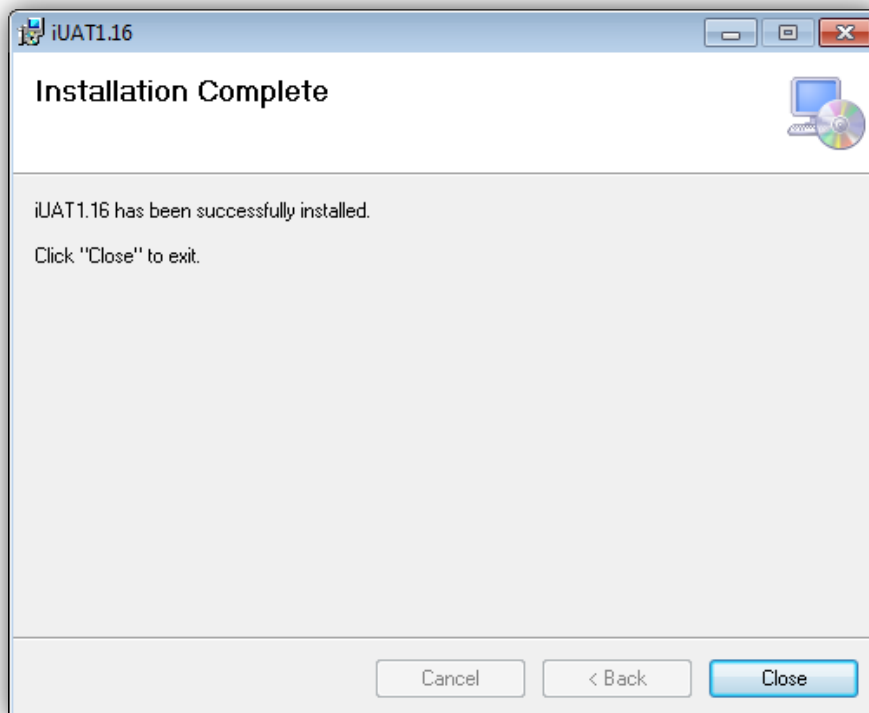

Figure 8: The installation is completed
9. Program will start installation process. When installation is complete, click “Close” to exit from the program (Figure 8).